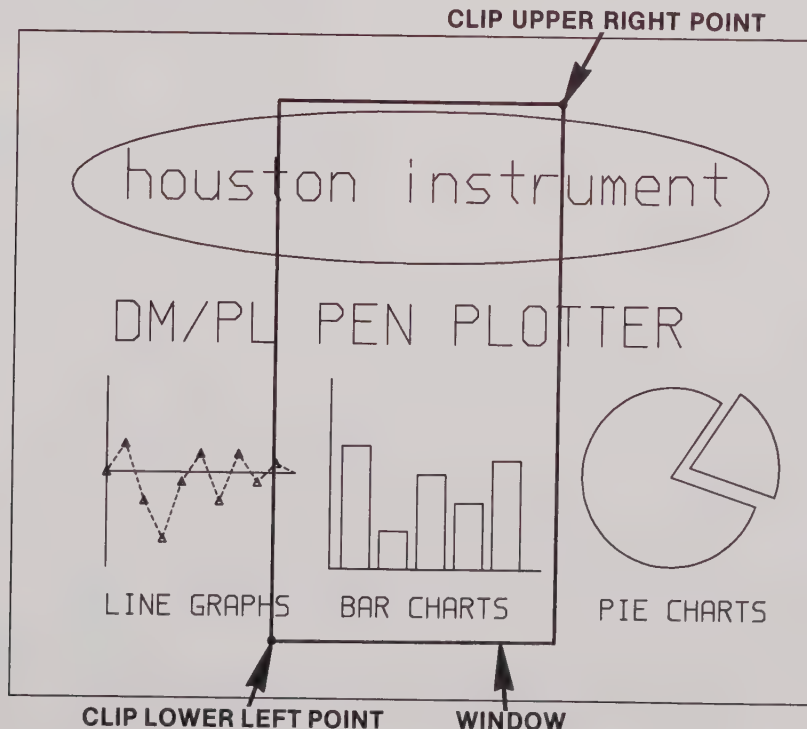

FIGURE 2-5
4. Use the plotter manual controls and move the pen to the approximate location for the lower left point shown in Figure 2-5.
6. Use the plotter manual controls and move the pen to the approximate location for the upper right point shown in Figure 2-5.
9. Insert a clean sheet of small chart paper or use the backside of the used sheet. Use the manual movement keys to move the pen to the vicinity of the clip lower left point shown in Figure 2-5.